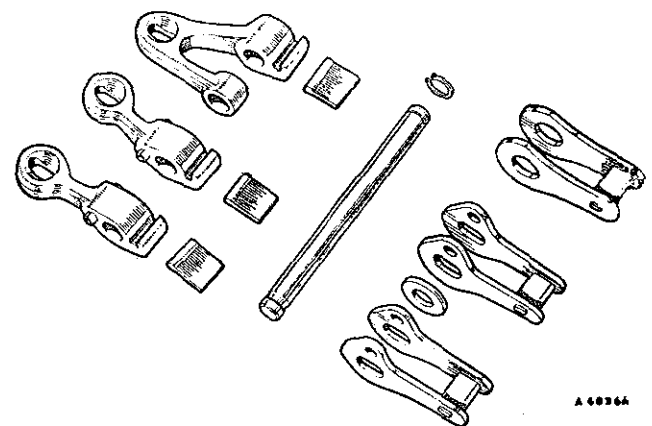

Fig. Fa.50
- (6) Lubricate the seals and fit the pistons into the correct bores (lips of seals facing downwards).
- (7) Assemble the springs and cover.
- (8) Hold the cover in position and fit the drive screws.
- (9) Assemble the struts, washer(s), reaction levers, and servo levers in the reverse order of dismantling (Figs. Fa.50, 52 and 53).
- (10) Insert the centre shaft with the cutaway in the shaft correctly positioned.